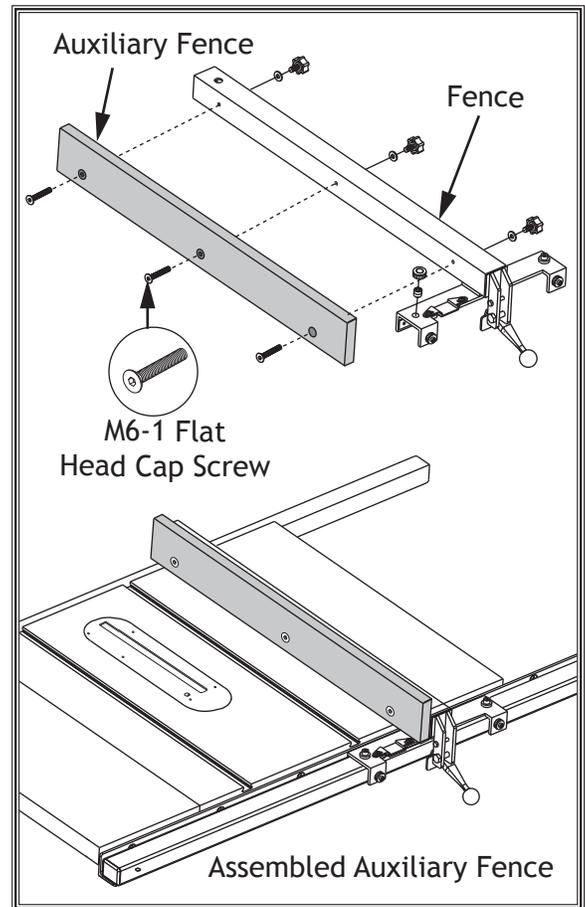
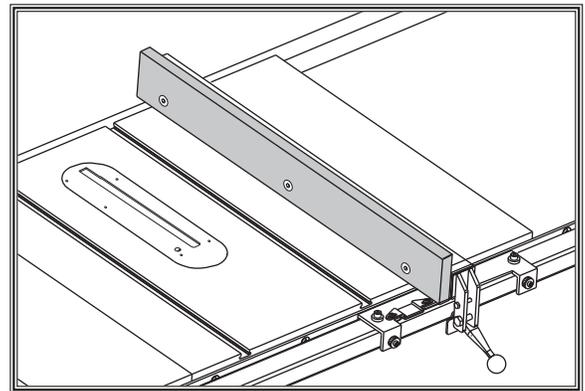

Figure 73. Example of auxiliary fence attached to Model W1888 fence face.
Figure 75. Example auxiliary fence attached to included fence.
The fence should be similar to the one in **Figure 73** when installed.
6. Insert (3) flat head cap screws through holes in auxiliary fence board (see **Figure 73** on **Page 51**) and secure with knobs and flat washers removed earlier. The end result should be similar to **Figure 75**.